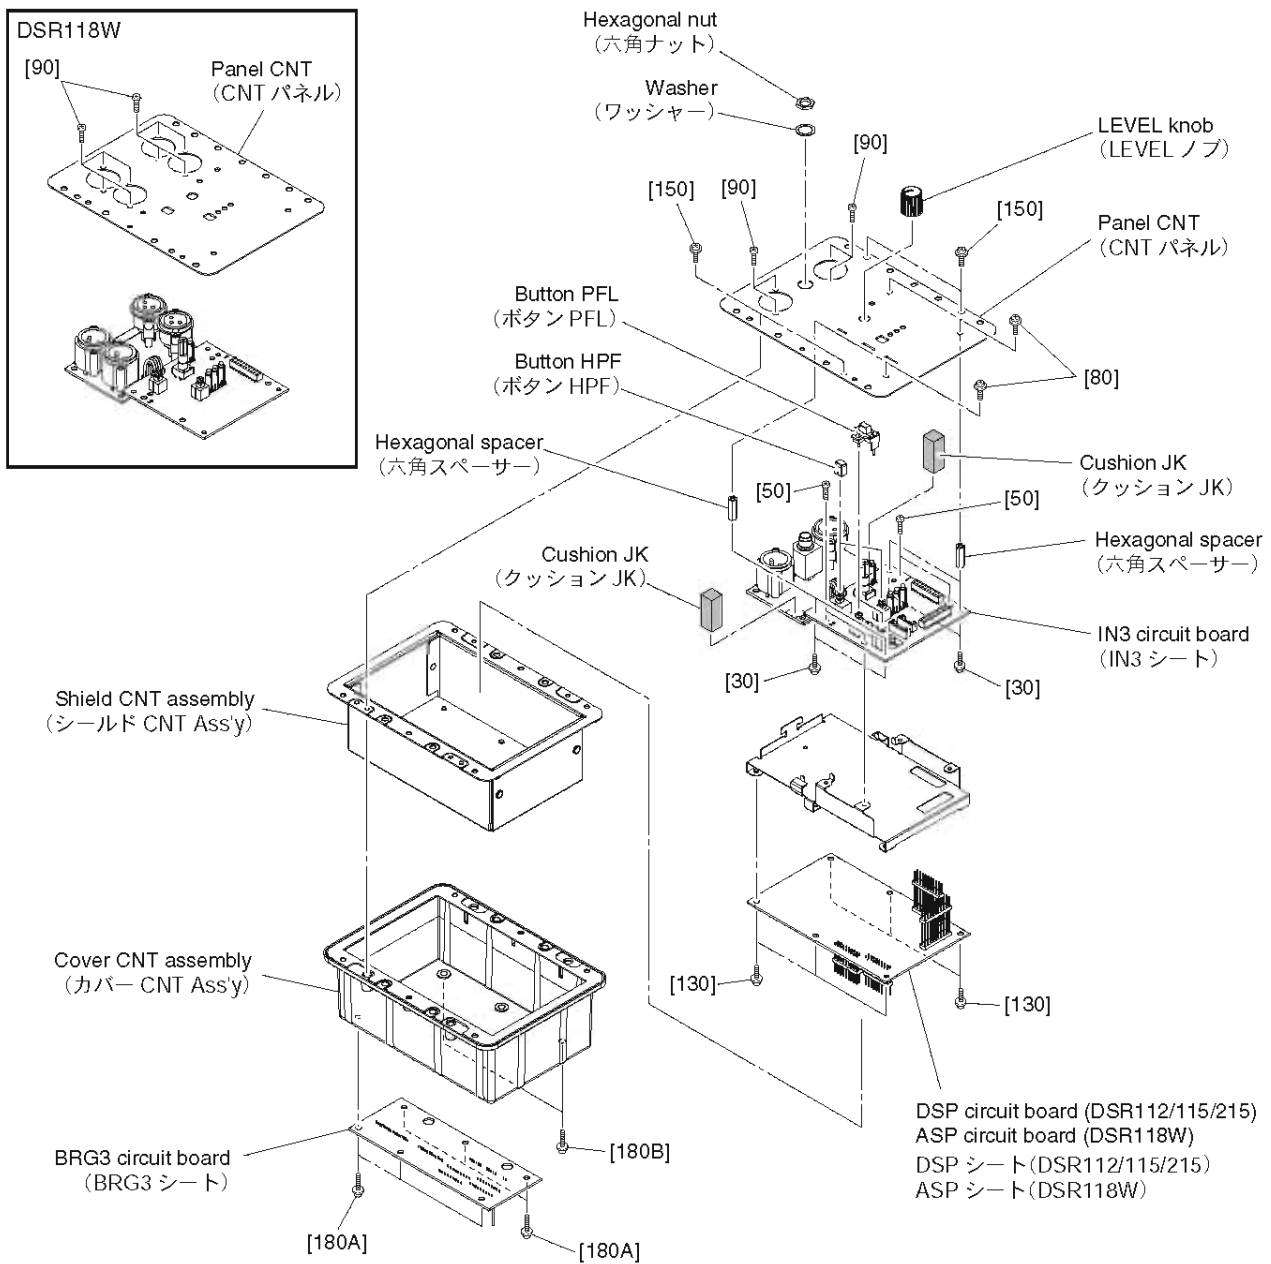

Fig. 2 (図 2)
- 2-3. Remove the six (6) screws marked [130]. The DSP (DSR112/115/215) or ASP (DSR118W) circuit board can then be removed. (Fig. 2)
- 3-2. Remove the four (4) screws marked [150]. The cover CNT assembly can be removed together with the shield CNT assembly. (Fig. 2)
Remove the LEVEL knob, the four (4) screws marked [80], the four (4) screws marked [90], the hexagonal nut and the washer. The panel CNT can then be removed. (Fig. 2)
Remove the LEVEL knob, the four (4) screws marked [80] and the eight (8) screws marked [90]. The panel CNT can then be removed. (Fig. 2)
- 2-2. [150] のネジ 4 本を外して、カバー CNT Ass'y をシールド CNT Ass'y と共に外します。(図 2)
- 2-3. [130] のネジ 6 本を外して、DSP (DSR112/115/215) または ASP (DSR118W) シートを外します。(図 2)
- 3-2. [150] のネジ 4 本を外して、カバー CNT Ass'y をシールド CNT Ass'y と共に外します。(図 2)
LEVEL ノブ、[80] のネジ 4 本、[90] のネジ 4 本、六角ナット、ワッシャーを外して、パネル CNT を外します。(図 2)
LEVEL ノブ、[80] のネジ 4 本、[90] のネジ 8 本を外して、パネル CNT を外します。(図 2)
3-4. Remove the four (4) screws marked [50]. The IN3 circuit board can then be removed. (Fig. 2)
* The two (2) buttons HPF, the two (2) buttons PFL, the two(2) cushions JK, the four (4) hexagonal spacers and the four (4) screws are not parts of the IN3 circuit board. When replacing the IN3 circuit board, be sure to remove these parts and attach them to the new IN3 circuit board.
3-4. [50] のネジ 4 本を外して、IN3 シートを外します。(図 2)